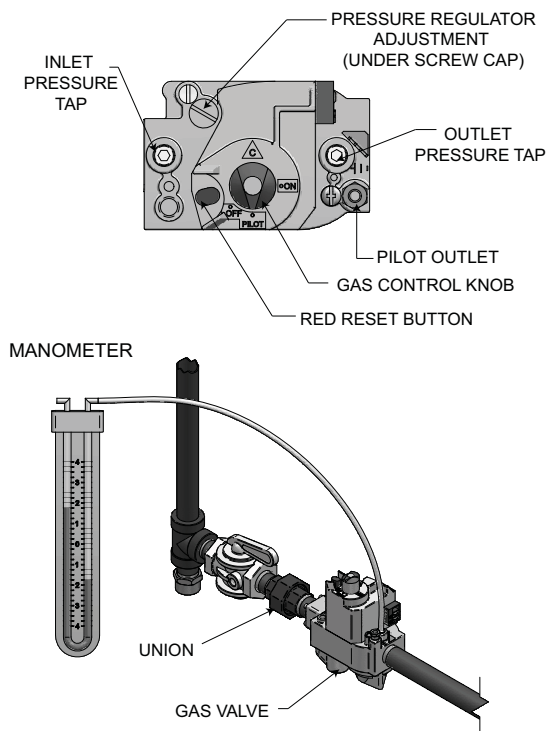

Figure 3-3 Manifold Pressure Adjustment
3. Remove the 1/8" hex plug located on the outlet side of the gas valve and install a fitting suitable to connect to a manometer or magnahelic gauge. See FIG. 3-3. Minimum range of scale should be up to 5" w.c. for Natural gas models and 10" w.c. for L.P. gas models.
5. Remove the pressure regulator adjustment cap screw on the gas valve. See FIG. 3-3 for location.